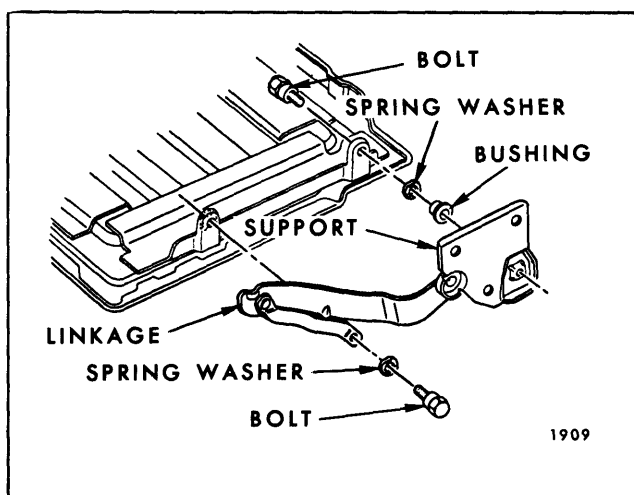

Fig. 15-60—Third Seat Back Panel and Linkage
2. At both sides of third seat back panel remove seat back linkage bolt (Fig. 15-60) and bolt securing seat back panel to support (Fig. 15-60), then remove seat back panel assembly from body.